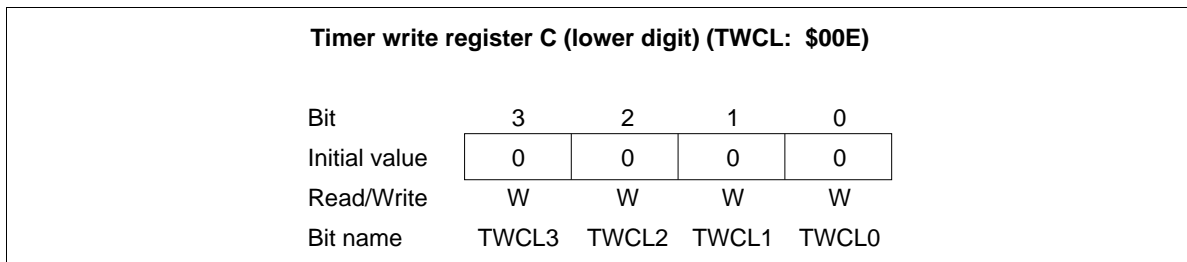

Figure 36 Timer Write Register C Lower Digit (TWCL)
- Timer write register C (TWCL: \$00E, TWCU: \$00F): Write-only register consisting of a lower digit (TWCL) and an upper digit (TWCU) as shown in figures 36 and 37. The lower digit is reset to \$0 by MCU reset, but the upper digit value is invalid.